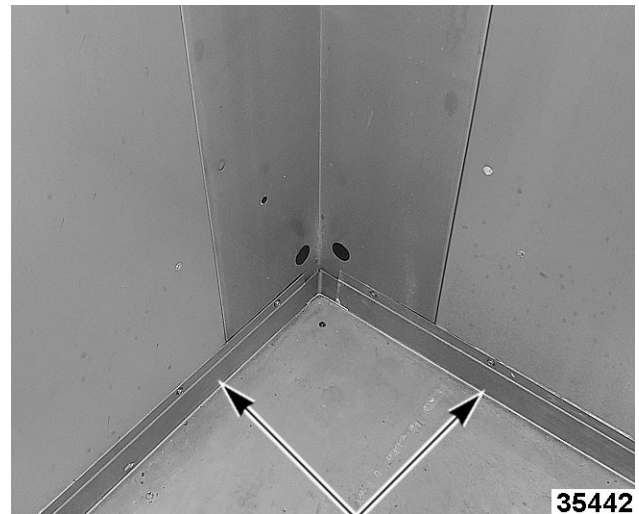

Fig. 37
2. Fasten floor retainer (Fig. 37) to walls using #10-16 x 3/4" drill tip screws from hardware package.